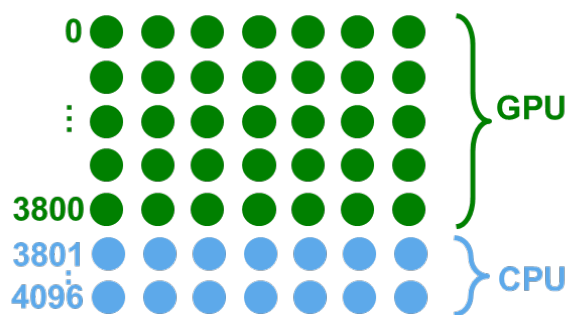
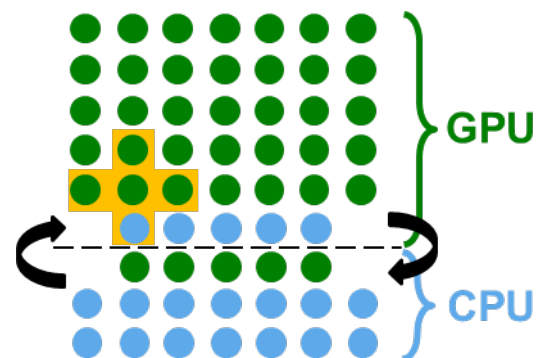

Figure 3: Work distribution between CPU and GPU
Figure 4: Halo exchange between CPU and GPU
In this case, you should give the GPU more work to do than the CPU by distributing more matrix rows to the GPU (see Figure 3). Be aware that you have to exchange some halo data between host and device (Figure 4) in each iteration.
- d) Before the swap loop, the halo data must be exchanged (see Figure 3) which can be done using the `update` directive. While it is possible to also overlap data transfers with computations using the `async` clause on `updates` directives, you should *not* implement it for this task.